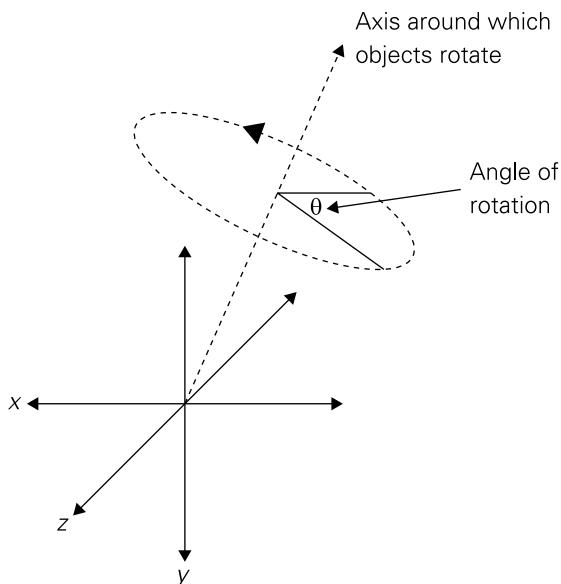

FIGURE 10-8: Rotation is defined by the axis around which objects rotate and the angle of rotation.
- Rotation requires a bit more understanding of three-dimensional coordinate systems. Whereas rotation in two dimensions occurs around a point, in three dimensions this must happen around an axis. Once this axis is defined, a convention must then be used to define whether clockwise or anticlockwise rotation occurs for positive values of rotation around this axis. OpenGL ES uses a right-handed coordinate system so the right-hand rule applies: curling the fingers of your right hand as you point your thumb in the air shows you the direction of positive rotation around an axis pointing in the direction of your thumb. For example, an axis defined by the vector  $(dx, dy, dz)$  with respect to the origin (where at least one of  $dx$ ,  $dy$  or  $dz$  are non-zero) defines an axis about which each vertex can be rotated by a user-defined angle (which we call  $\theta$ ). (See Figure 10-8.)